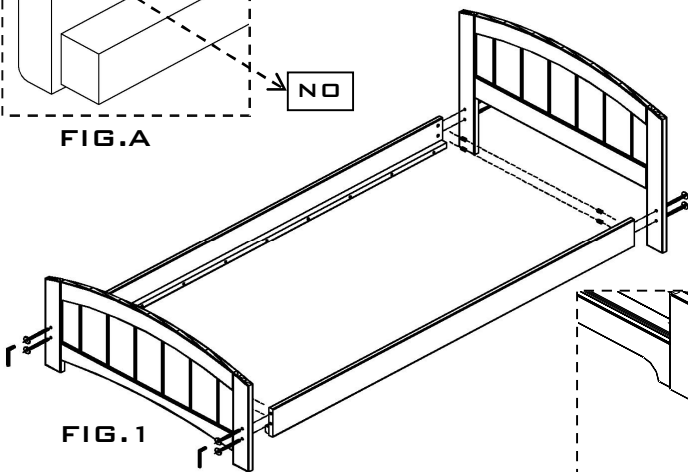

FIG.1
28-705 TOP BUNK END FIG.1
- 1.- ASSEMBLE FULL BOTTOM HDBD & FTBD, USING ONE HEADBOARD (T), ONE FOOTBOARD (U) AND TWO SIDE RAILS (F).
- 2.- INSERT TWO CROSS DOWEL NUTS (I) IN ACCESS HOLE INSIDE THE SIDE RAIL, ALIGN THE CROSS DOWEL NUT MAKE SURE THE GROOVE IS HORIZONTAL, **SEE FIG.A**
- 3.- ATTACH THE HDBD AND FTBD TO SIDE RAILS, INSERTING TWO FLAT HEAD BOLTS (H) INTO THE HEADBOARD & FOOTBOARD HOLES, USE THE 5MM ALLEN WRENCH (J) TO TIGHTEN BOLTS UNTIL SECURE, **SEE FIG.1**